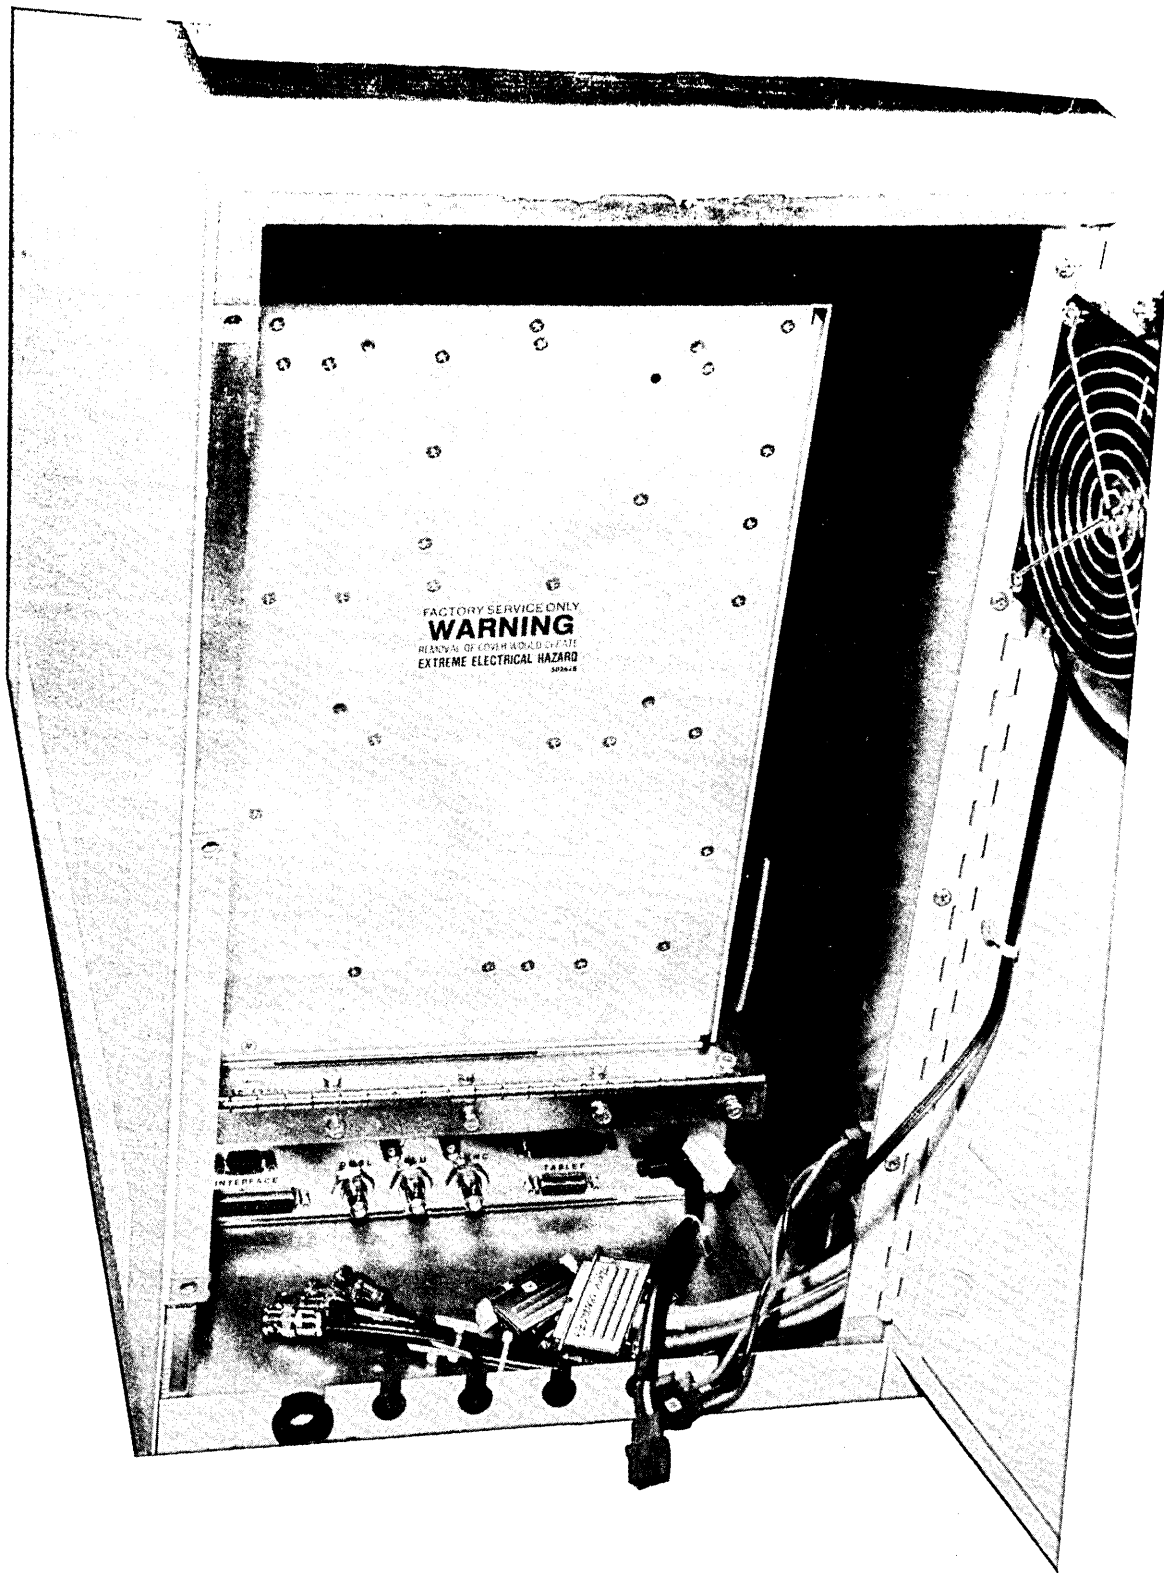

Figure 5-34. Rear of Power Supply Showing Cables Disconnected
2. See figure 5-34. Open the rear door of the right pedestal assembly. Remove the connectors mating to the display generator chassis assembly.